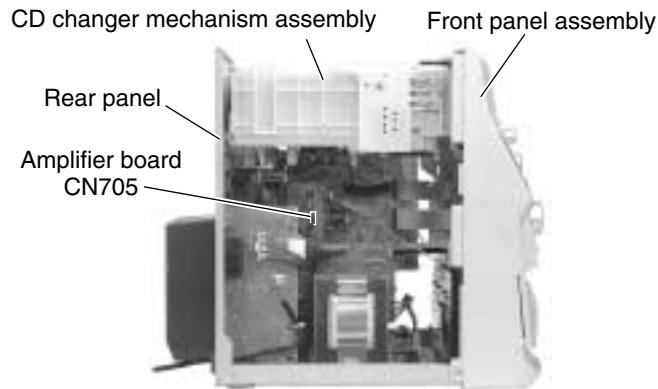

Fig.4
■ Removing the CD changer mechanism assembly (See Fig.4 and 6)